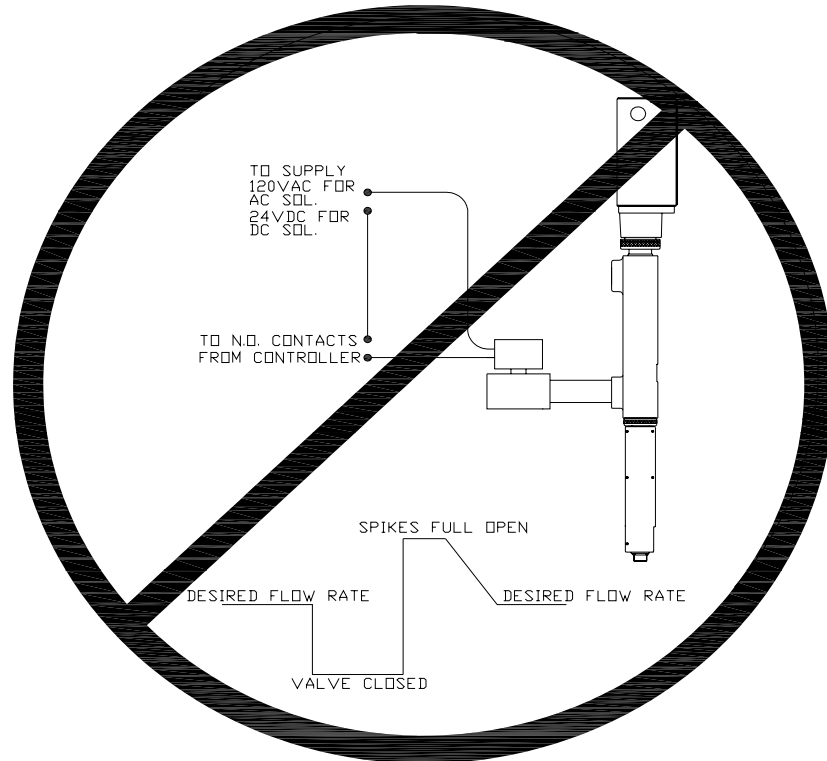

Figure 13
**Caution:** Do Not connect a solenoid valve to a SAV Flo-Meter as shown in Figure 13. Damage may occur to float rod assembly due to spiking.